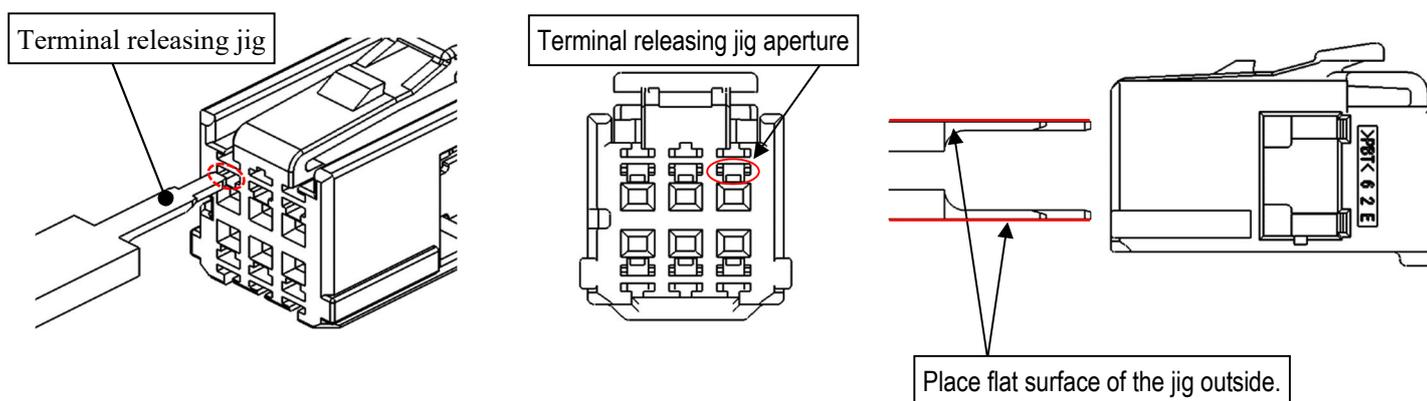

Fig38. Female housing and Direction of release
- ④ Only use the retainer releasing jig specified.
- ⑤ Care must be taken not to damage edge of the jig (e.g. from dropping, etc.)
- ① Ensure that the secondary lock part and the retainer have been removed.
- ② Hold the wire and push in the female terminal lightly. Place the female terminal releasing jig into the releasing apertures of the female housing (see Figs. 38).